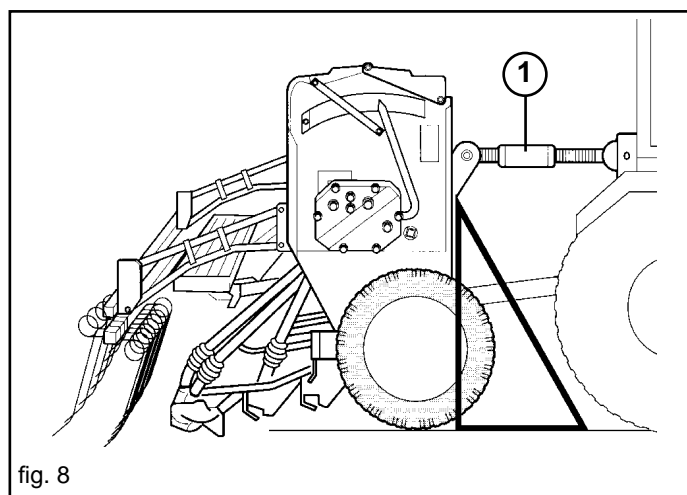

fig. 8
- 1) Connect the seeder to the tractor's three point attachment; the pins must be fastened with the appropriate pegs. Use the adjustment stay-bolts (1 Fig. 7-8) to ensure that the seeder is perpendicular to the ground (Fig. 8).